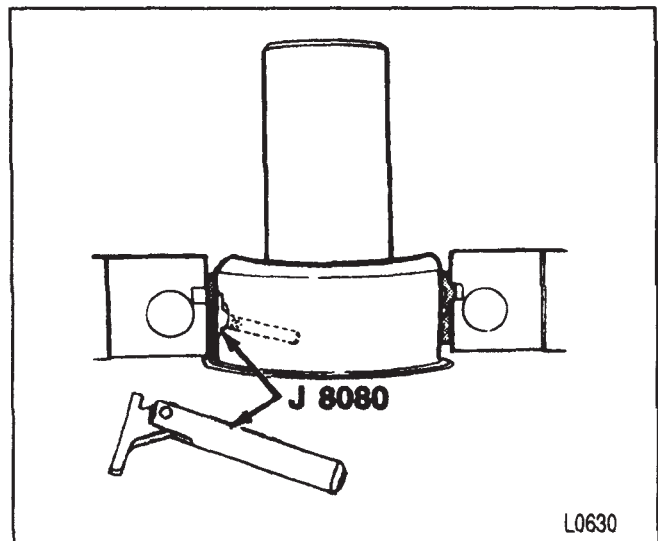

Figure 32—Removing the Main Bearing Insert
- A. Insert J 8080 into the crankshaft oil hole (figure 32).
- A. Insert J 8080 into a crankshaft main bearing oil hole (figure 32).